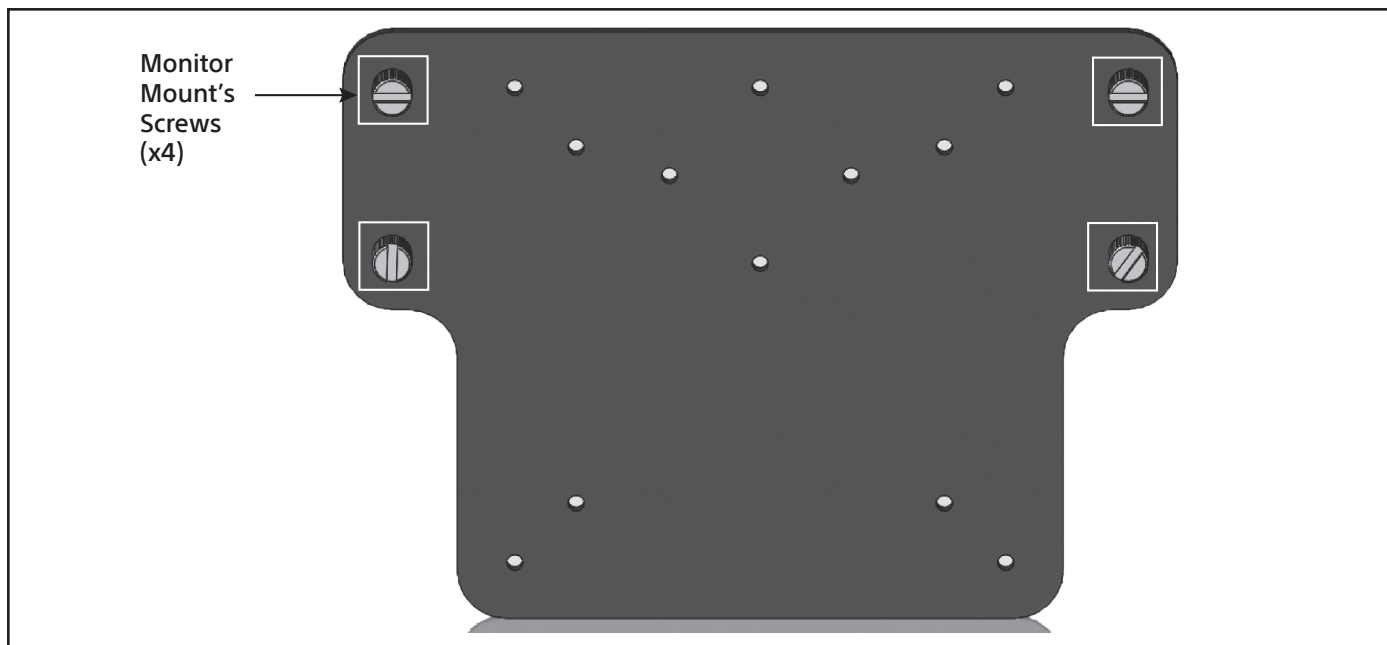
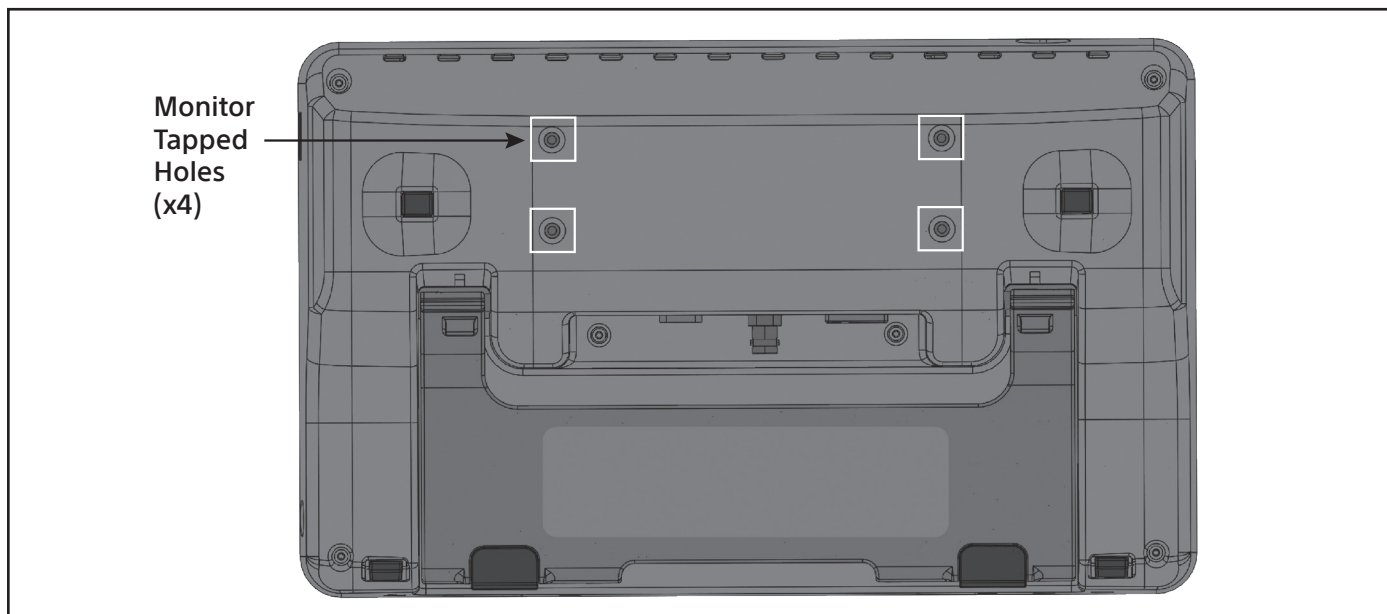

Figure 19. Align Monitor Mount's Screws
Figure 20. Monitor Tapped Holes
4. Align the Monitor mount's screws (Figure 19) with the tapped holes on the back of the EXALT Monitor (Figure 20).